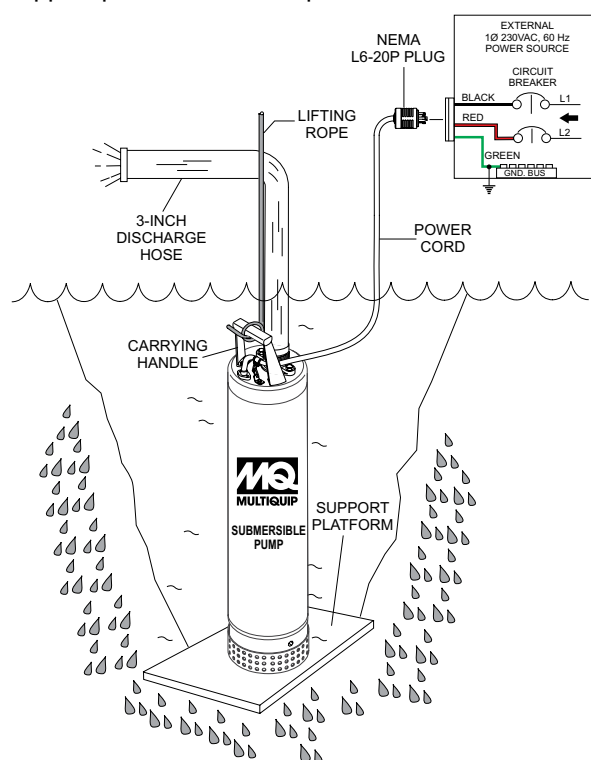
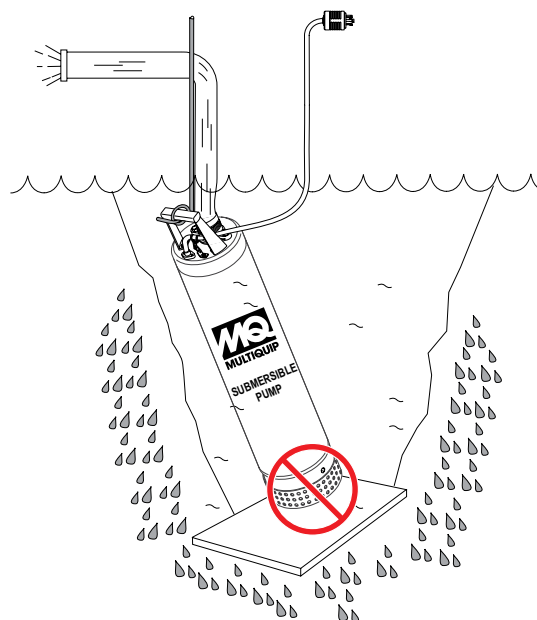

Figure 12. Submersible Pump Upright Position (Correct)
Figure 13. Submersible Pump Tilted Position (Incorrect)
1. Attach a suitable lifting cable (rope) to the carrying handle (Figure 12) on the pump and lower the pump into place. For applications where there is an excessive amount of mud, grit or silt, the use of a support platform is desirable. When pumping water from swimming pool type applications where there is little or no debris, the support platform is not required.
2. Make sure the pump is always placed in an upright position (Figure 12), and not tilted (Figure 13). Never position the pump directly on a soft, loose bottom. Remember to attain maximum pumping capacity and prevent excessive wear. Position the pump so it will not burrow itself into sand or clay.
2. Insert the L6-20P power cable plug (Figure 12) into the appropriate power source receptacle. The correct source voltage for this pump is 230 VAC, 60 Hz, single-phase.